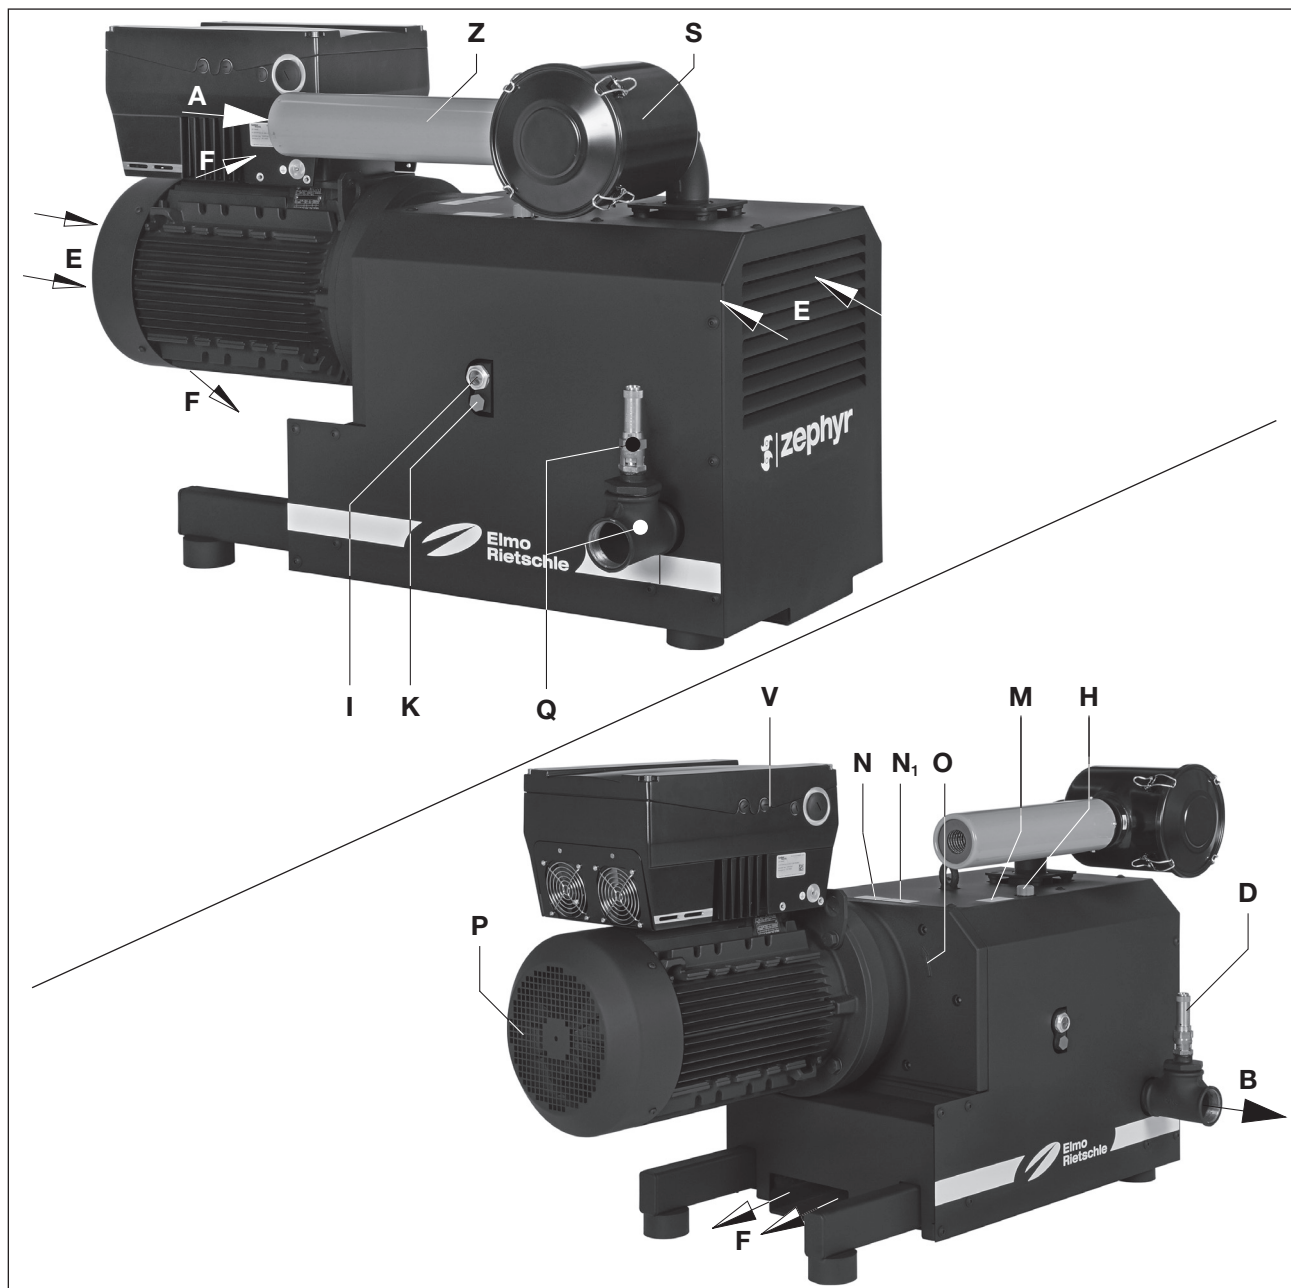

Fig. 2 Compressor C-DLR 301
- the machine must only be operated at speed and frequency range according to the data plate (Fig. 2/N₁)
The C-DLR 301 is encapsulated by an insulating hood. In order to dissipate compression heat, the cooling air is sucked through between the machine and the hood using drum fan that sucks in the fresh cooling air (Fig. 2/E) and discharges the heated air out of the cooling air outlet (Fig. 2/F).
Three-phase motor with integrated frequency converter (Fig. 2/V) makes possible infinitely variable control of the speed.
To protect against overload a safety valve (Fig. 2/D) is fitted as standard.
This contact free running claw compressor C-DLR 301 is suitable for creating excess pressure between 0 and the maximum limit (in bars) given on the data plate (Fig. 2/N₁). Constant operation is permissible.
The oil filling point (Fig. 2/H), oil sight glass (Fig. 2/I) and the oil outlets (Fig. 2/K) must be easily accessible. The cooling air inlets (Fig. 2/E) and the cooling air outlets (Fig. 2/F) must be at least 30 cm away from adjacent walls. Cooling air coming out must not be sucked in again. For maintenance work there must be a minimum of 40 cm in front of the inlet filter (Fig. 2/S) and the inlet silencer (Fig. 2/Z).
- a) Pressure connection at (Fig. 2/B).
As a protection against overload a safety valve (Fig. 2/D) is installed as standard.
- a) Fill the lubricating oil (for suitable types see “Maintenance”) for the gear wheels and oil filling point (Fig. 2/H) up to the middle of the sight glasses (Fig. 2/I).
- b) Connect the frequency converter (Fig. 2/V) according to the operating instructions 610.00260.40.000 or with the attached connection diagram. For the observance with the protection class IP 65 shall be provided suitable cable glands resp. shutters. The electric network connection values are to be taken from the type label of the frequency converter.